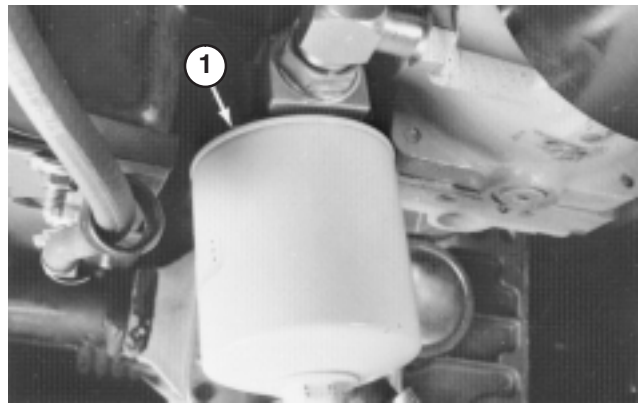

Figure 67
1. Clean area where hydraulic oil filter mounts. Remove filter from base (Fig. 67) and clean filter mounting surface.